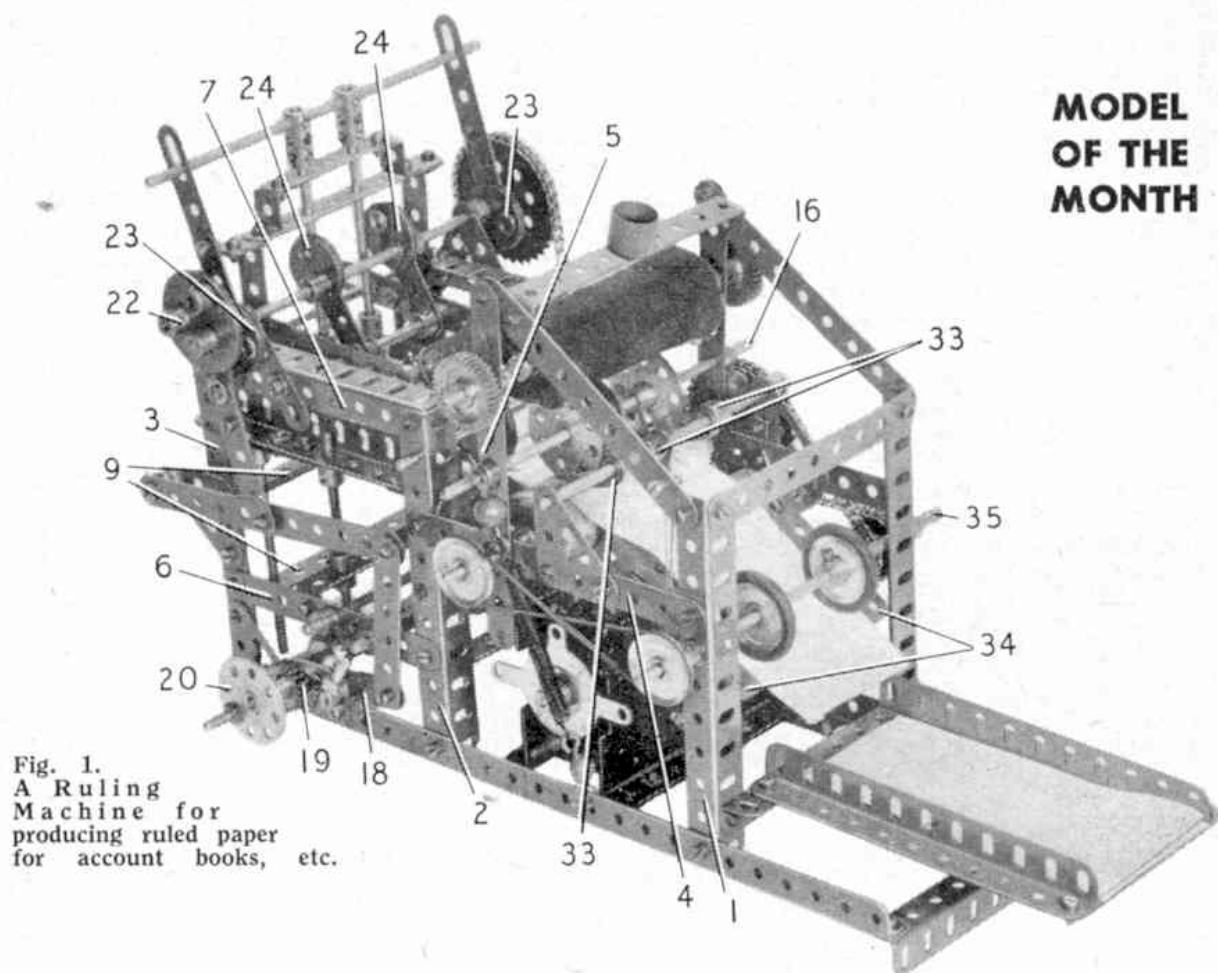

Fig. 1.
The model is shown complete in Fig. 1 on this page and while it is not at all difficult in construction, the building of it should provide plenty to interest the constructor. The model is driven by an E20R(S) Electric Motor and is most realistic when in operation.